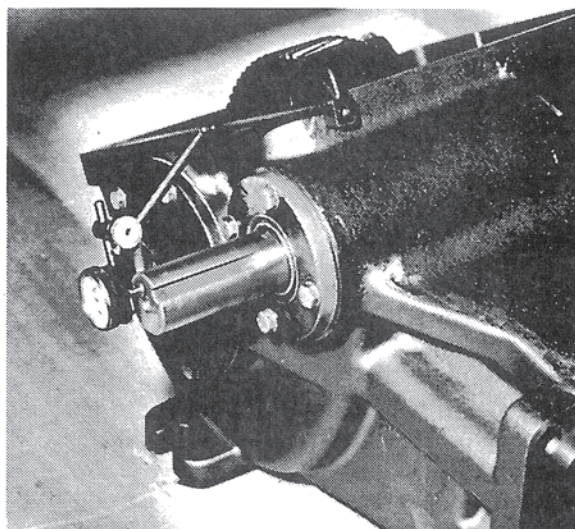

Fig. 10
- B. Put on other cap using total shim thickness known to be more than needed so that resulting end play is greater than required. Tighten cap screws holding pinion or crankshaft caps to gear case. Rotate pinion shaft back and forth and apply about 15 lbs. axial force to properly seat tapered rollers. Measure end play by using an indicating gage in a manner shown in Fig. 10.